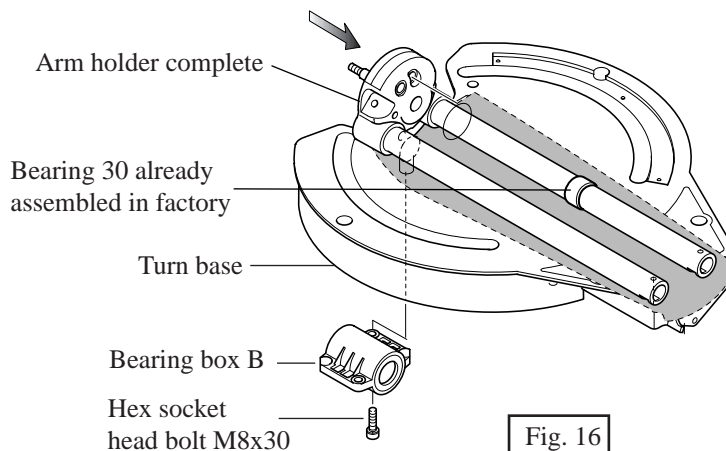

Fig. 16
- 1) Fasten bearing box B with hex socket head bolt M8x30 to the back side of turn base temporarily. See Fig. 16.
- 2) Insert arm holder complete into the hole of turn base until it stops, and then fix bearing box B firmly with hex socket head bolt M8x30. See Fig. 16.